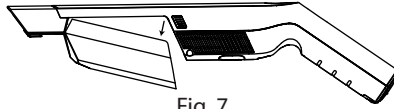

Fig. 7
1. Press the dust container switch to take off the dust container from the main body. (see Fig. 7)